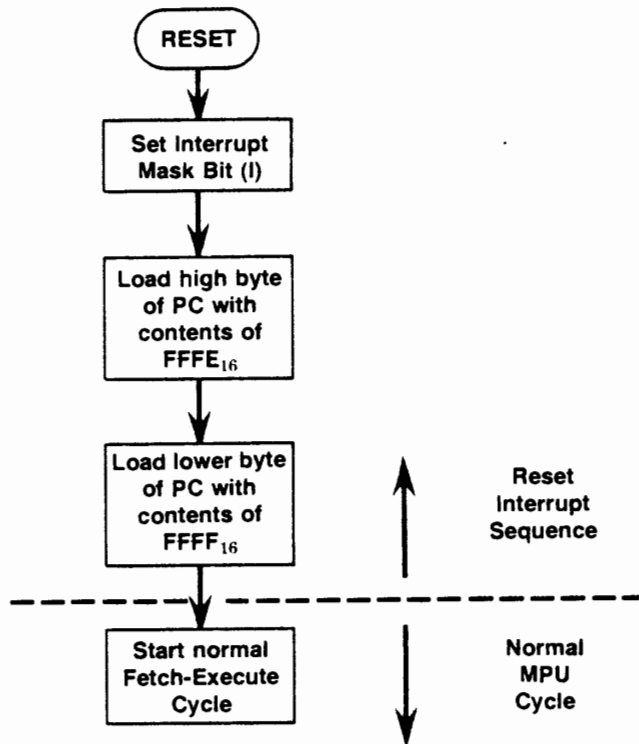

Figure 6-21.
Figure 6-21 shows the sequence of events that occurs when the MPU is reset. First, the interrupt (I) mask bit is set. You will recall that the I flag is one of the condition code registers. As you will see later, if this flag is set, it prevents one of the other interrupts from occurring. Thus, the MPU sets the interrupt mask bit so that the reset sequence will not be interrupted by a request for interrupt by one of the I/O devices.